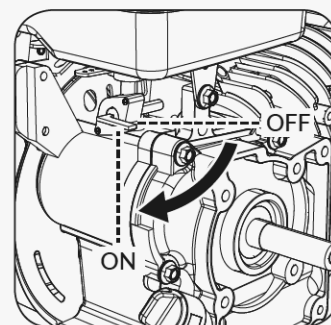

Figure 9
1. Move the fuel valve lever to the **ON** position. (see **Figure 9**)